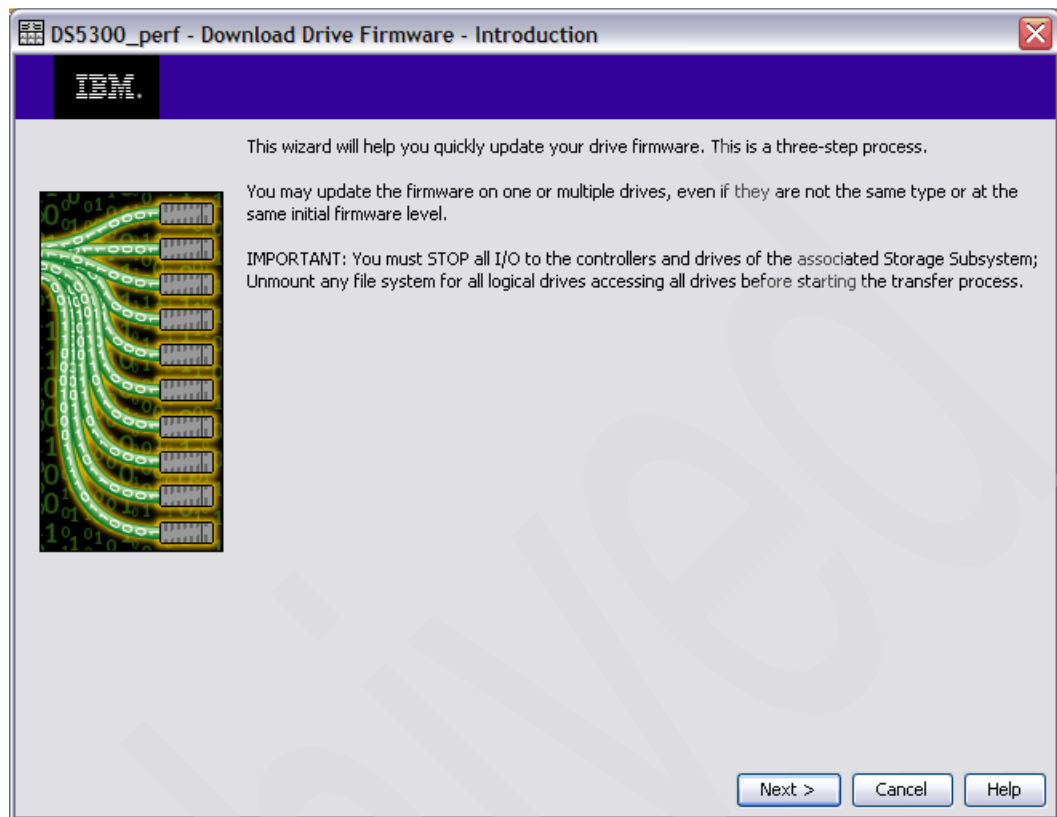

Figure 7-22 Drive upgrade wizard
2. Start the wizard and a window opens, as shown in Figure 7-22. Click **Next**.